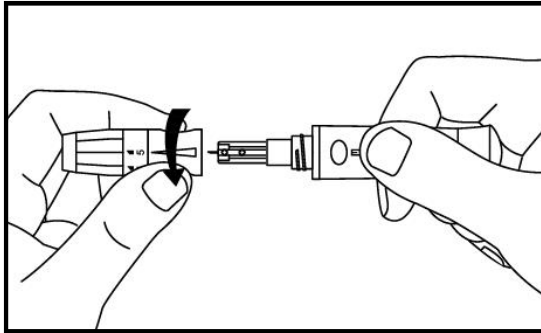

Fig. 25
Step 4: Carefully screw the cover back to the lancing device. Avoid contact with the exposed needle. Make sure the cover is fully seated on the lancing device.(Ref Fig. 25)